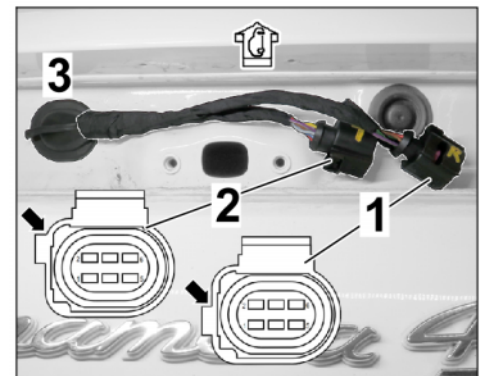

Figure 17 (Sport Turismo)
2.3.1 Tail light in tailgate area (see also wiring diagram 45A – Tailgate, left) ⇒ *Figure 17 (Sport Turismo)*
- Lock connectors (6-pin) on the left and right side. ⇒ *Figure 17 (Sport Turismo)*
2.3.2 Tail light grommet area in tailgate ⇒ *Figure 16-3-* and ⇒ *Figure 17 (Sport Turismo)*